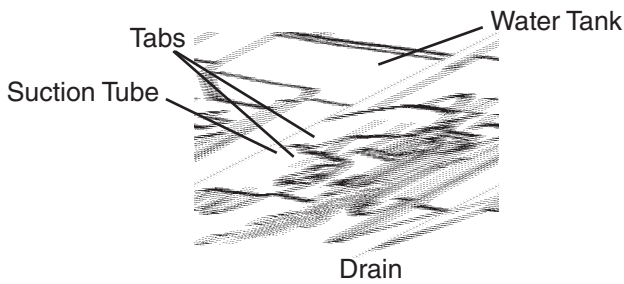

Fig. 31
- 6) Inside the ice storage bin, disconnect the suction tube by squeezing the tabs and pulling the tube clear. See Fig. 31. Allow the water tank to drain.